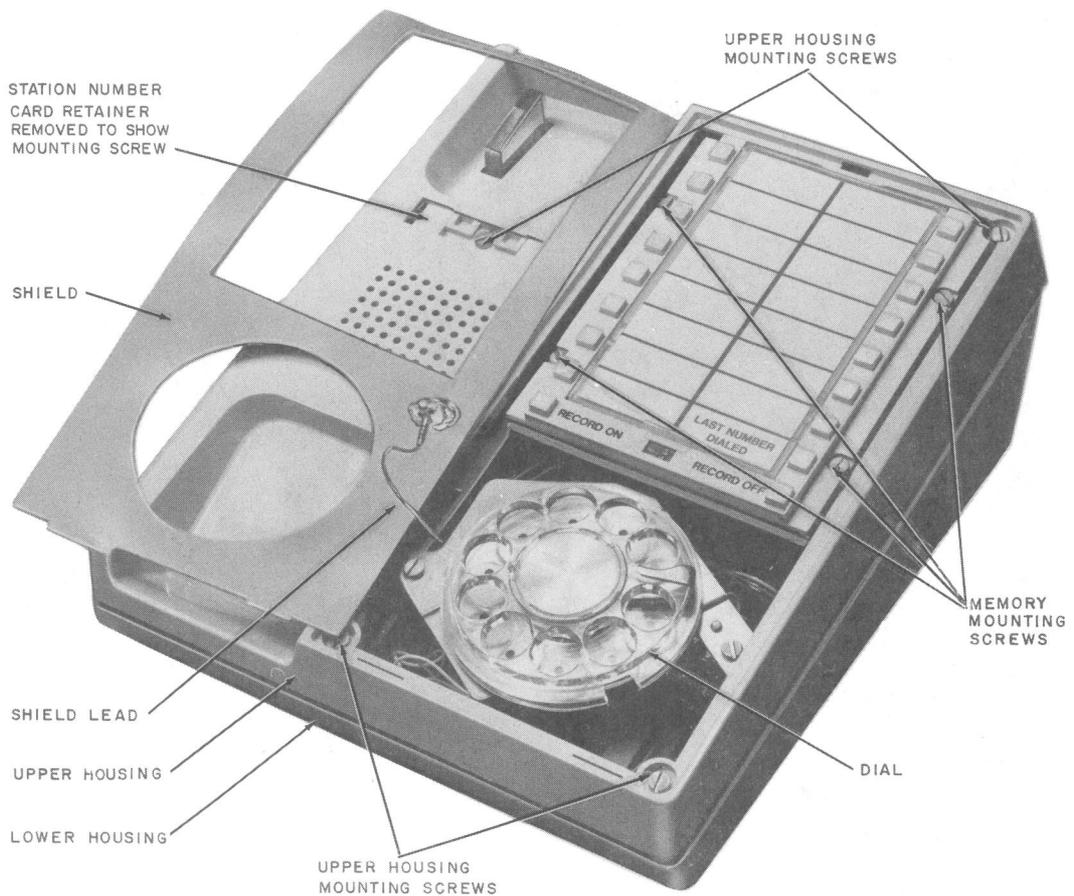

Fig. 4—960A01M Telephone Set With Handset and Faceplate Removed, and Shield Laid Aside
- (4) Insert the 3 leads from the switch assembly between the circuit board and the chassis under the memory.
- (5) Replace the lower housing and place the set upright.
- (6) Remove faceplate (paragraph 3.15).
- (7) Disengage the four captive memory mounting screws (Fig. 4)
- **Shield**—underneath faceplate and is positioned over the dial and Memory (Fig. 4).
- **Rotary Dial**—fastened by two screws and located on the top side at right-front corner of the chassis (Fig. 4).
- **Memory**—fastened by four screws and located just to the rear of the dial on the top right side of the chassis (Fig. 4).
- **Upper Housing**—fastened by four screws to the top side of the chassis (Fig. 4).
- (1) Unplug the modular handset cord at the telephone set end and remove handset.
- (2) Remove the faceplate (paragraph 3.15) and place the shield aside (Fig. 4).
- (3) Remove the station number card retainer and station number card.
- (4) Disengage the four captive upper housing screws (Fig. 4).
- (5) Remove the upper housing by slipping the shield through the faceplate cutout.
- (6) To replace the upper housing, reverse the procedure.